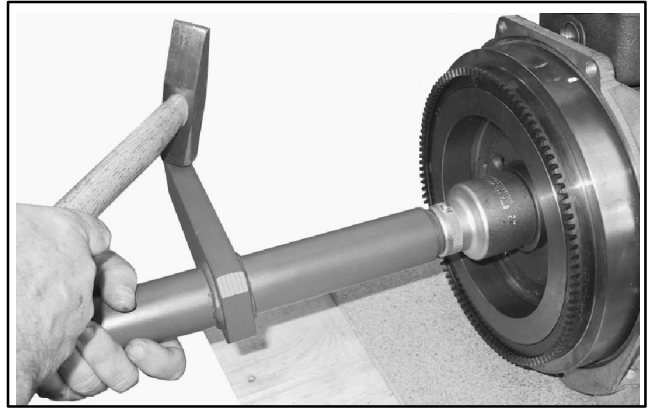

Figure 10-52 Flywheel Nut
1. Use a socket wrench and striker tool to loosen the flywheel nut two turns. Keep the flywheel nut on the shaft. See Figure 10-52.